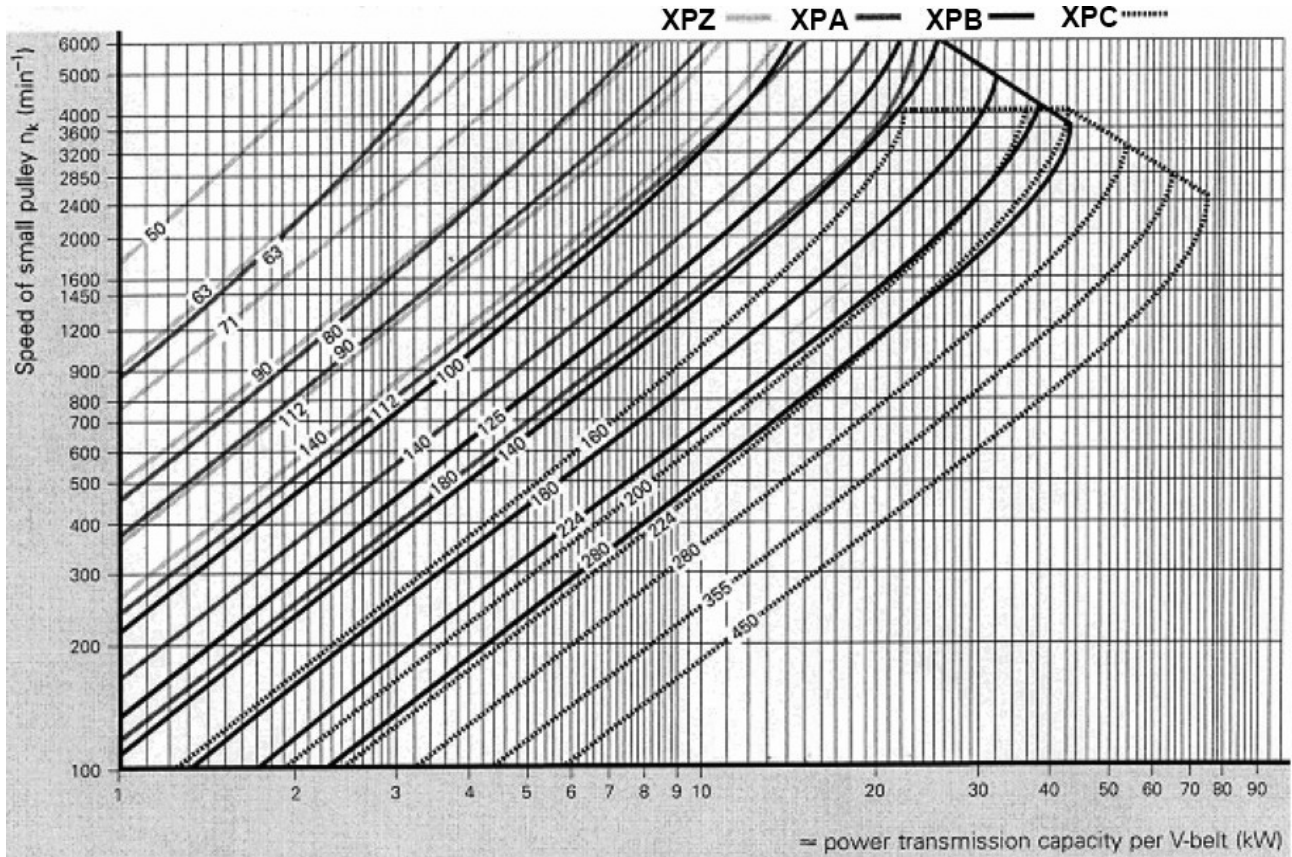
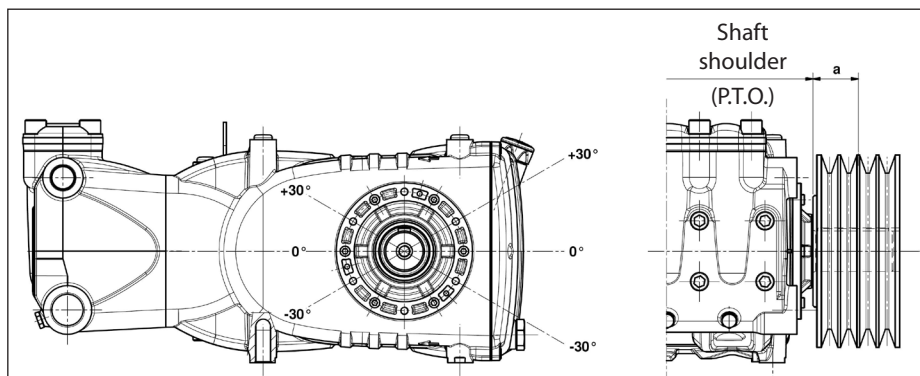

Fig. 7
Fig. 10
The pump can be controlled by a V-belt system. For this pump model, we recommend use of 4 XPB belts (16.5x13 serrated). Use an XPC profile only for long durations. Both the characteristics and transmissible power of each belt can be verified in the diagram in Fig. 7, in relation to the number of rpm normally declared by the manufacturer. Minimum duct pulley diameter (on pump shaft):  $\geq 250$  mm. The radial load on the shaft must not exceed 7500 N (value necessary for Layout definition). The transmission is considered adequate if the load is applied to a maximum distance  $a=40$  mm from the shaft shoulder (P.T.O) as shown in Fig. 10.
- b) Use high performance belts – for example **XPB** instead of **SPB** – as a lower quantity of belts for the same transmitted power may be necessary and a consequent shorter resulting distance compared to the shaft shoulder (P.T.O) "a" of Fig. 10.